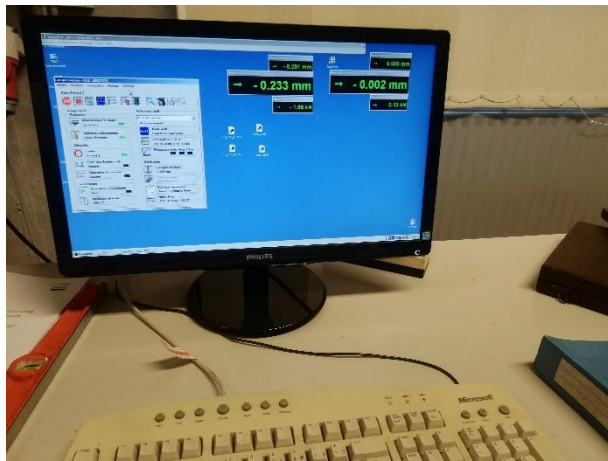

Fig 4: Tema software
- ❑ “Tema” installed in computer 1 to command the horizontal piston (Fig 4)